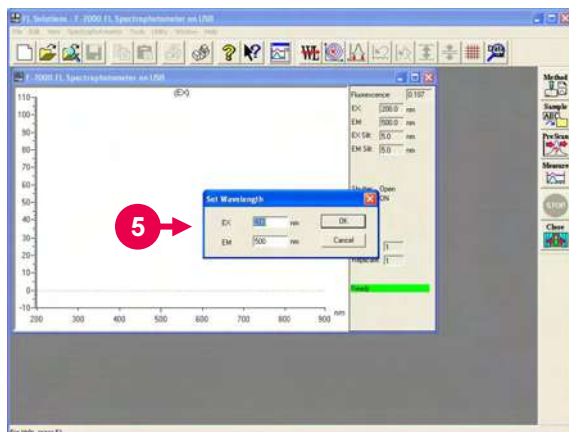

Fig. 1-29 Dialog Box
- When you click the  button of Measurement toolbar, a small window as shown in Fig. 1-29 is presented. This window is called a “dialog box.”